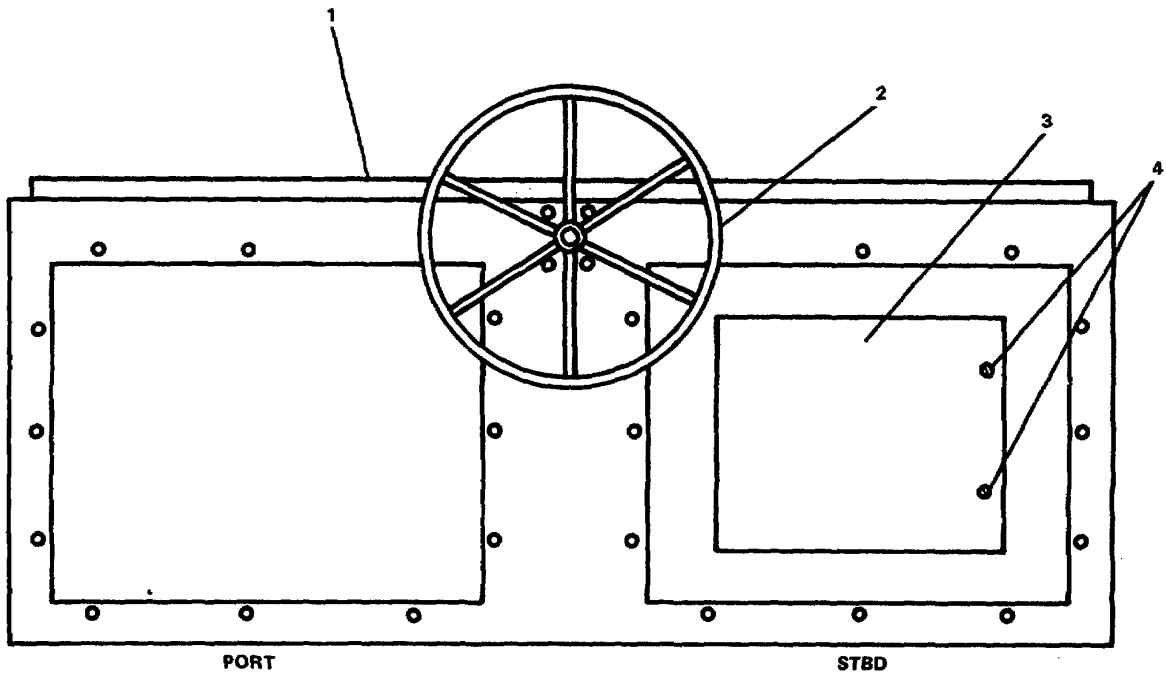
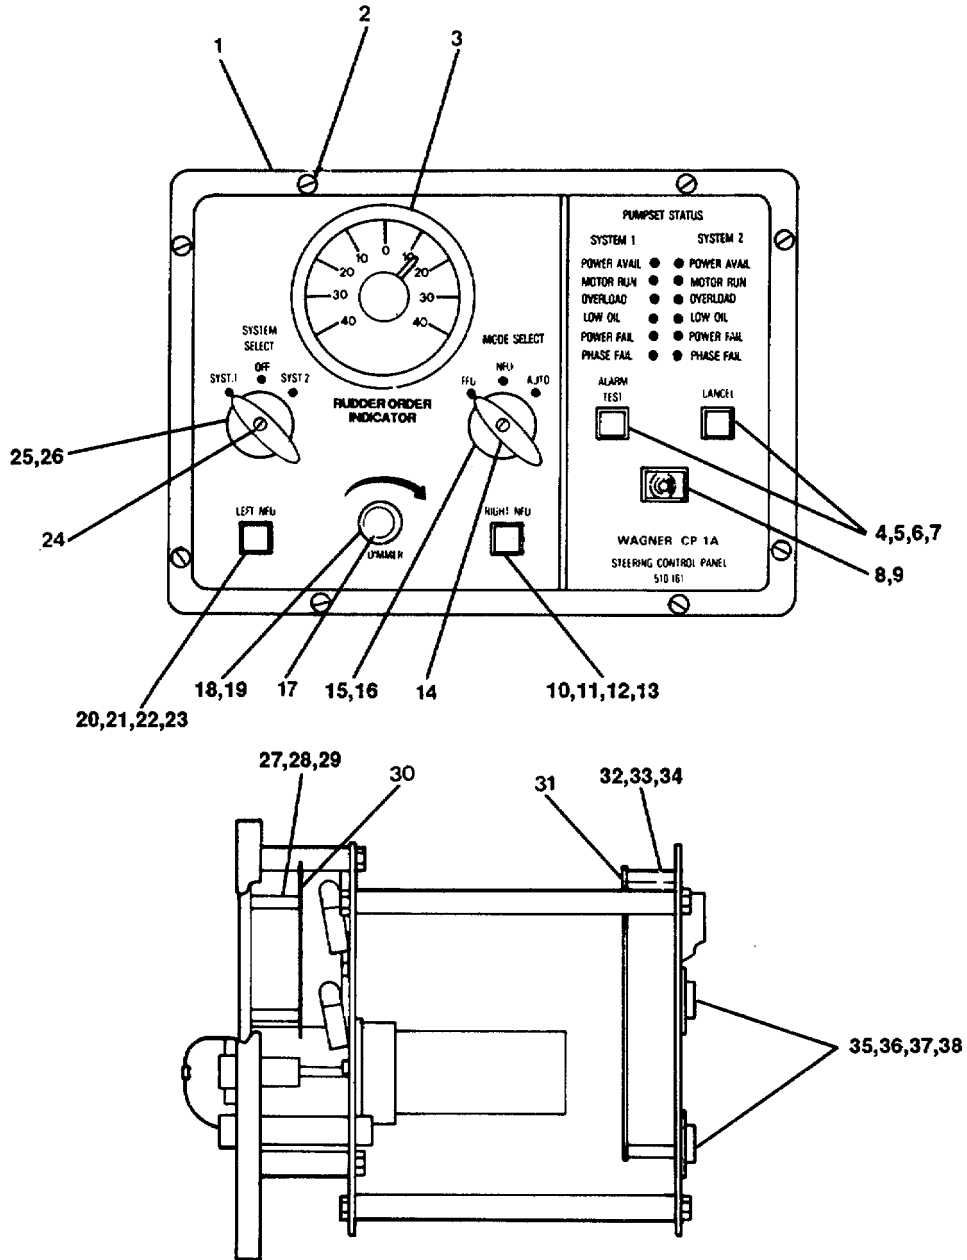

FIGURE 3-99. Pilothouse Control Console.
FIGURE 3-102. *Steering Control Panel Assembly.*
- (1) Unfasten two latching screws (4, Figure 3-99) securing starboard side access panel (3) to pilothouse control console (1).
- (2) Remove access panel.
- (2) Position wheel controller and front plate in control console (4). Make sure setscrew (6) goes into the proper hole.
- (3) Secure wheel controller, helm unit to control console (4) with four countersunk screws (5).
- (4) Install shaft key (8).
- (5) Slide wheel (2, Figure 3-99) over shaft key and shaft.
- (2) Secure assembly to rear of control console with four capscrews (2).
- (3) Connect electrical wiring to cable fittings (3) and remove tags.
- (4) Replace access panel (3, Figure 3-99) and secure to pilothouse control console (1) with two latching screws (4).
- (5) Restore electrical power to control console and remove warning tags.
**3-116. Replace/Repair Steering Control Panel Assembly. (Figure 3-102)**